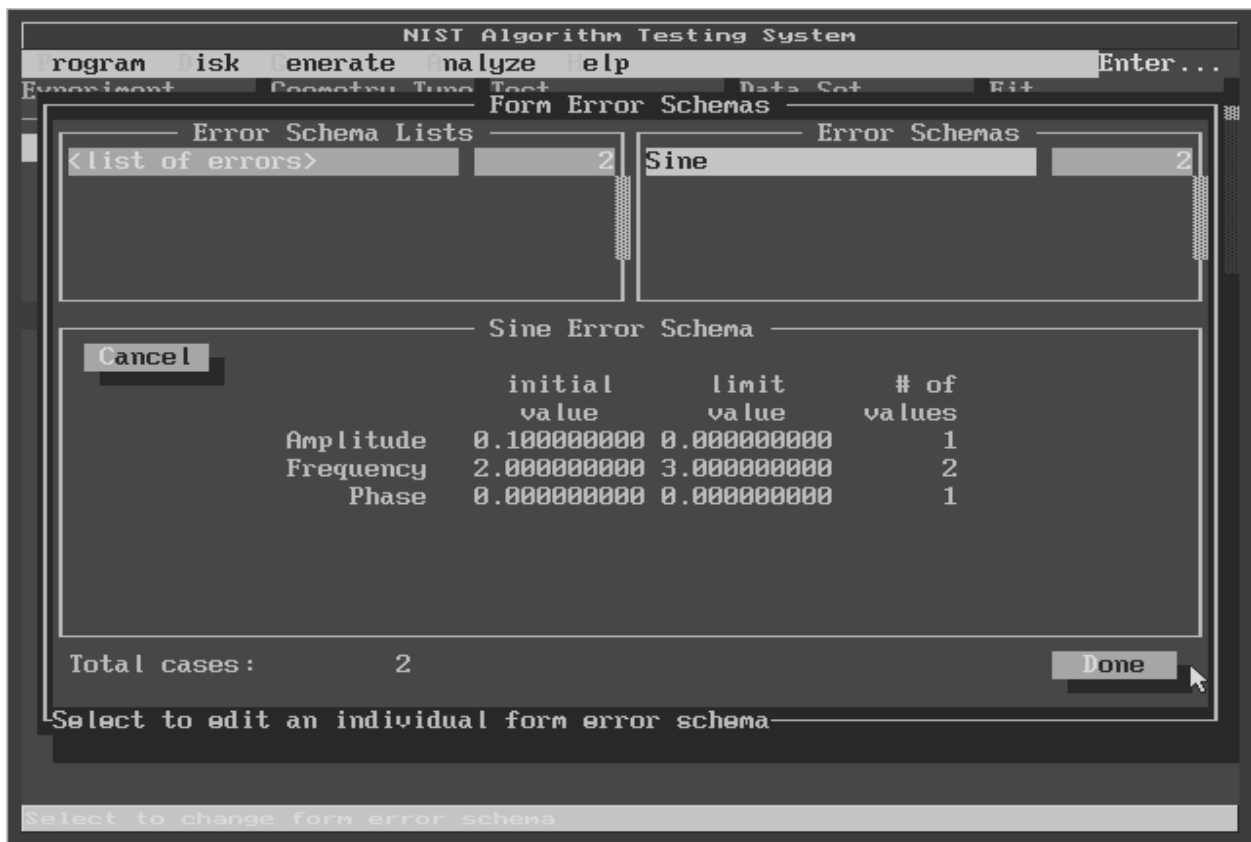

Figure 3 - the "Form Error Schemas" Window
- 13** The bottom of the *"Form Error Schemas"* window now displays the information relevant to a sine error. Refer to figure 3. You can enter ranges of values for the amplitude, frequency, and phase. (See step 7 above for a more complete discussion of ranges.) Select F1 at any time for further information on the meaning of these parameters. Enter the frequency initial value of 2, limit value of 3, and # of values = 2. Set the initial amplitude value to 0.1. (We're keeping # of values unchanged at 1 here, so there's no need to set the limit value.) The amplitude is given in global coordinate units (and not as a fraction of the circle's radius). Since we kept the default radius of 1 in step 8, an amplitude of 0.1 should be sufficient to make the sinusoidal error visible. When finished, use the mouse to select "Done" at the lower right corner of the window, or press Alt+D twice. (The first Alt+D tells the ATS you are finished with this section of the window. You will be returned to the *"Error Schemas"* section. The second Alt+D tells the ATS you are done with this entire window.) You will be returned to the viewer.